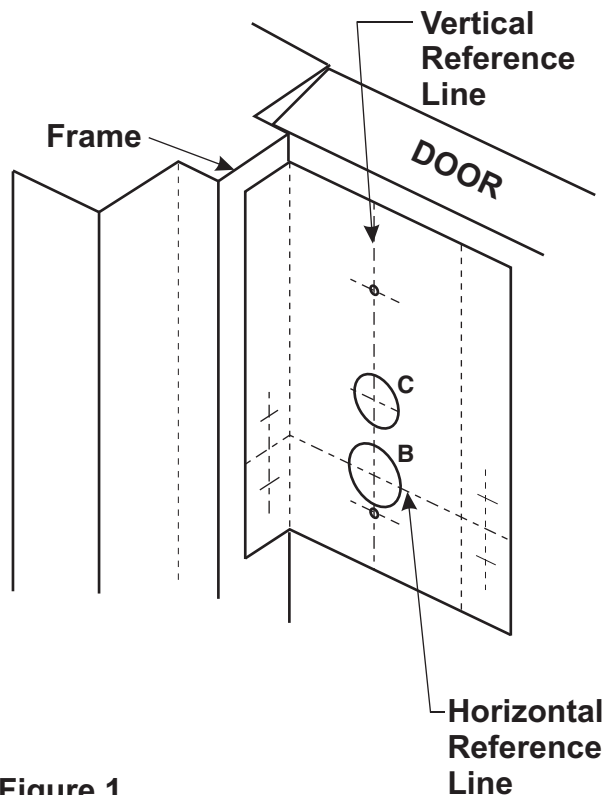

Figure 1
2. Use a center punch to mark door for (2) .144"(3.7mm) Dia. (#27 Drill) mounting holes for the Device Mounting Base (Shown Below).
3. Use a center punch to mark frame for (2) .099"(2.5mm) Dia. (#39 Drill) holes for the Magnet (Shown Below).
4. If outside Cylinder Control Option is to be used, bore a 1-1/4"(32mm) Dia. Hole thru door. **Fig. 1 'B' Hole**
5. For Hardwire option requiring door preparation, mark and bore a 1"(25mm) Dia. Hole to required depth. **Fig. 1 'C' Hole**
6. Install Magnet to door frame with (2) #4 screws supplied.